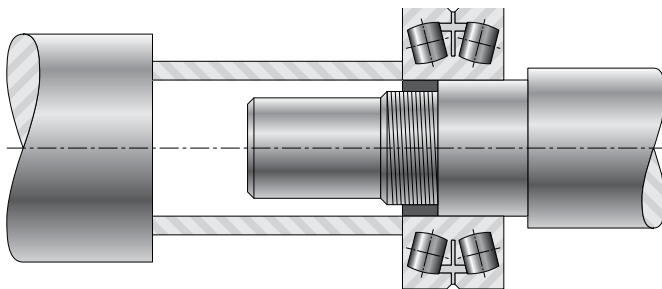

Fig. 9 Positioning the tube on the inner ring
- Position the tube on the inner ring and apply steady pressure with sufficient force to smoothly press the ring into place, and firmly against the shoulder or backing surface (Fig. 9).